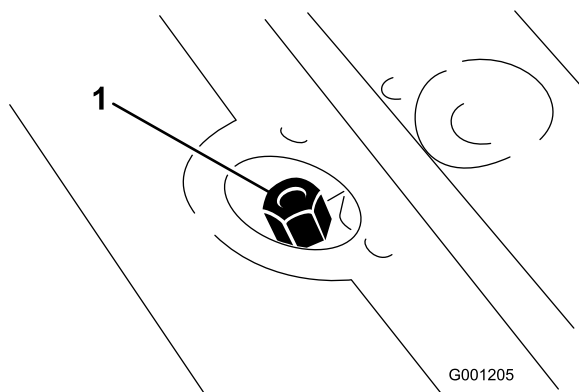

Figure 25
2. Remove dipstick cap (Figure 25) from filler neck and wipe it with a clean rag. Screw dipstick cap finger-tight onto filler neck; then remove it and check level of fluid. If level is not within 13 mm (1/2 inch) from the groove in the dipstick, add enough high quality hydraulic fluid to raise level to groove mark. Do not overfill.